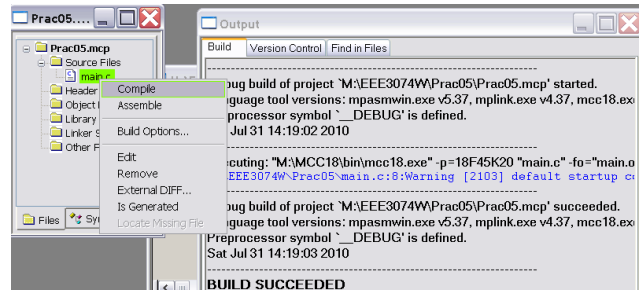

Figure 8: Compile the file.
8. Now compile the new code file you created. Do this by right-clicking the main.c file as shown in Figure 8. This should involve the compiler and the output dialog should eventually show a success message as illustrated.